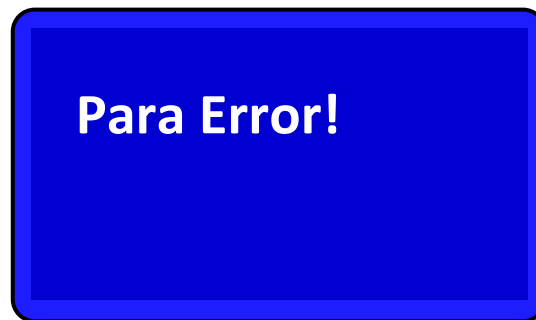

Fig.3-32 Para error
- a) When the interfaces shown in Fig3-32 appear, the default parameters of the lower system have error.